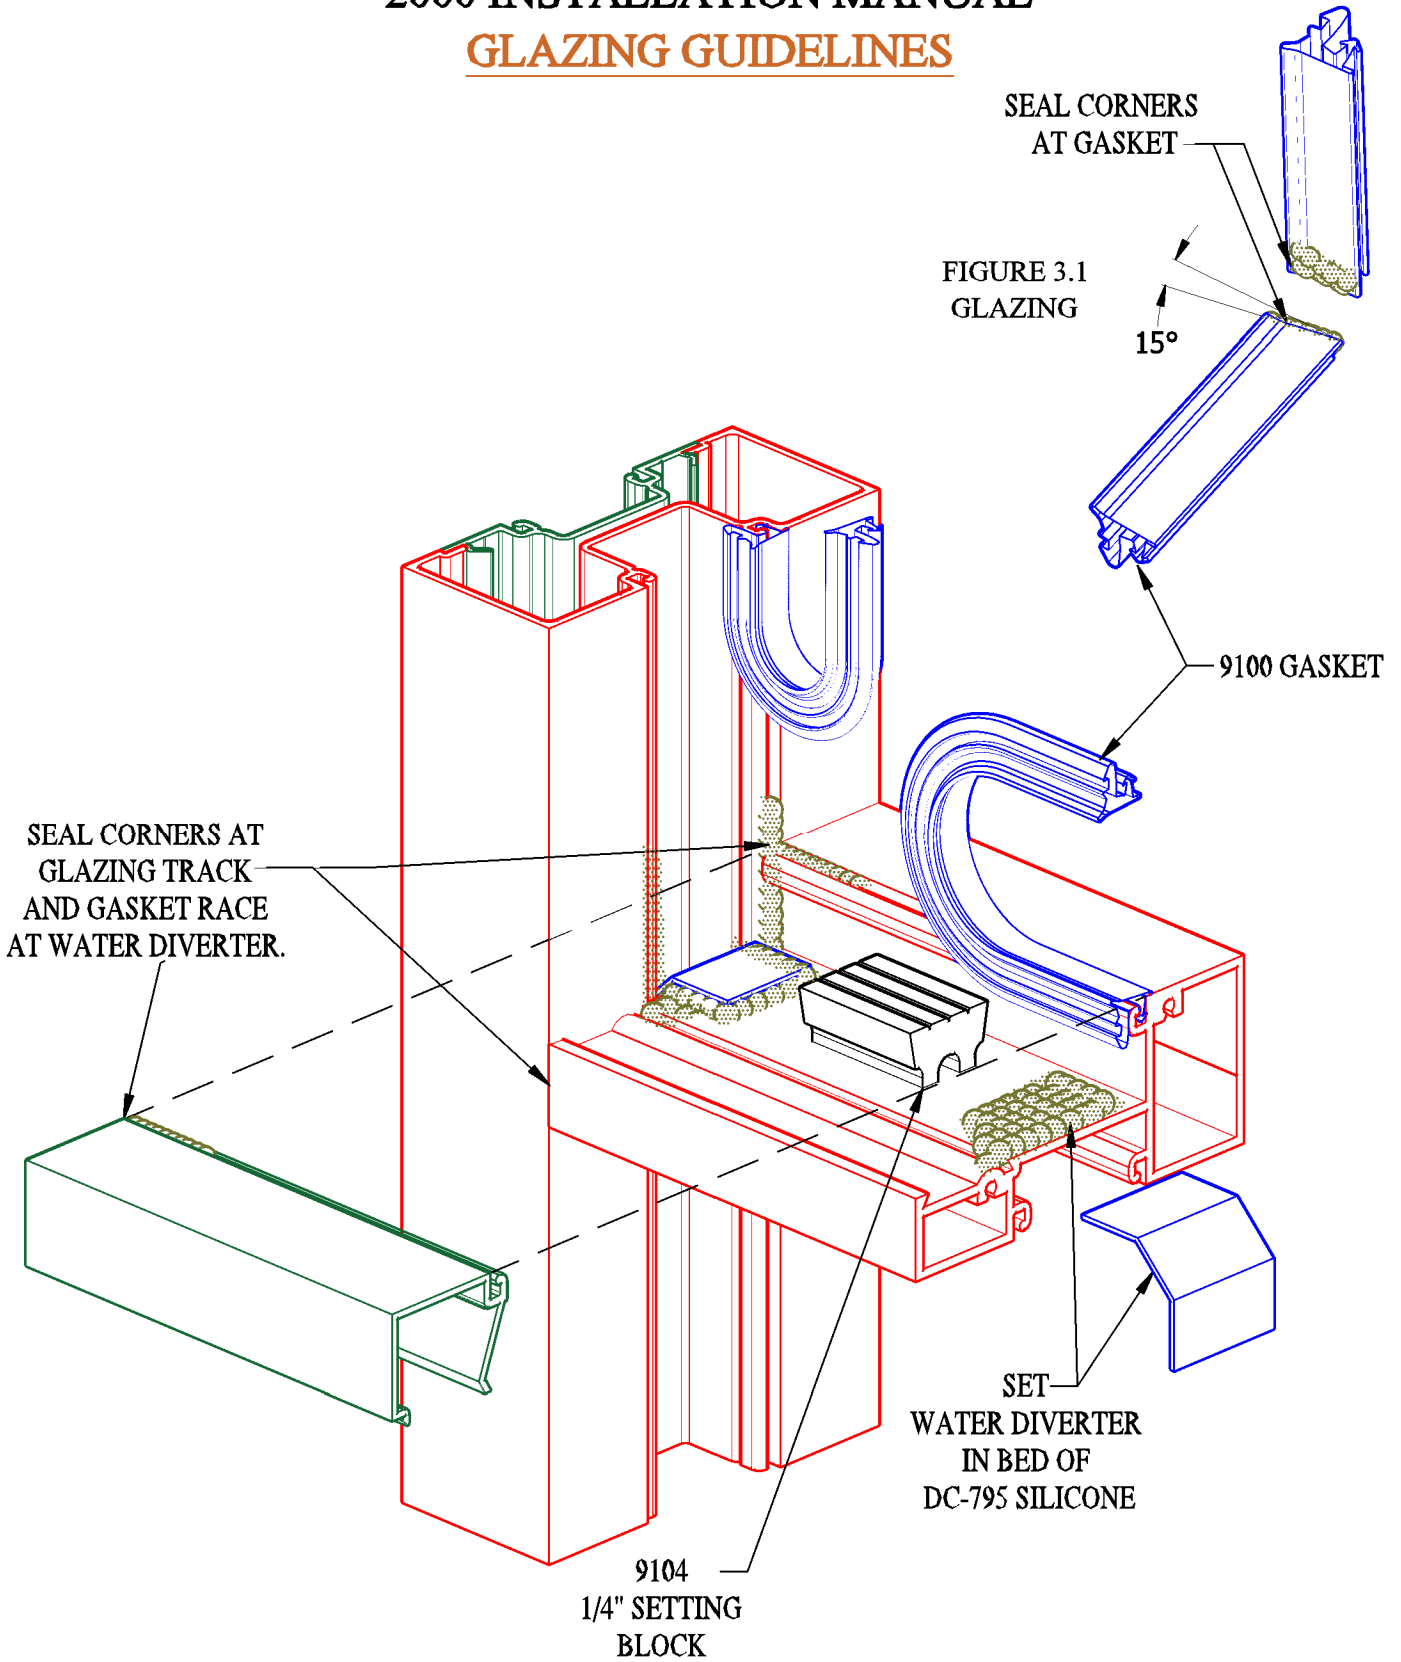

FIGURE 3.2
C) Install exterior gasket prior to glazing. Corners of exterior gaskets to be set in sealant as shown in **FIGURE 3.2** .Corners to be sealed just prior to setting glass as shown in **FIGURE 3.1**.